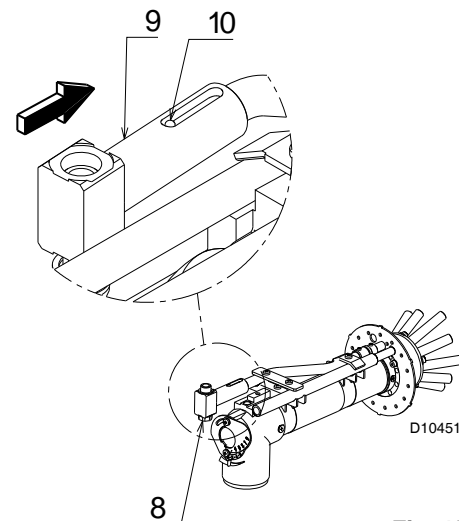

Fig. 15
- unscrew the pin 8)(Fig. 15) from the connection 9);